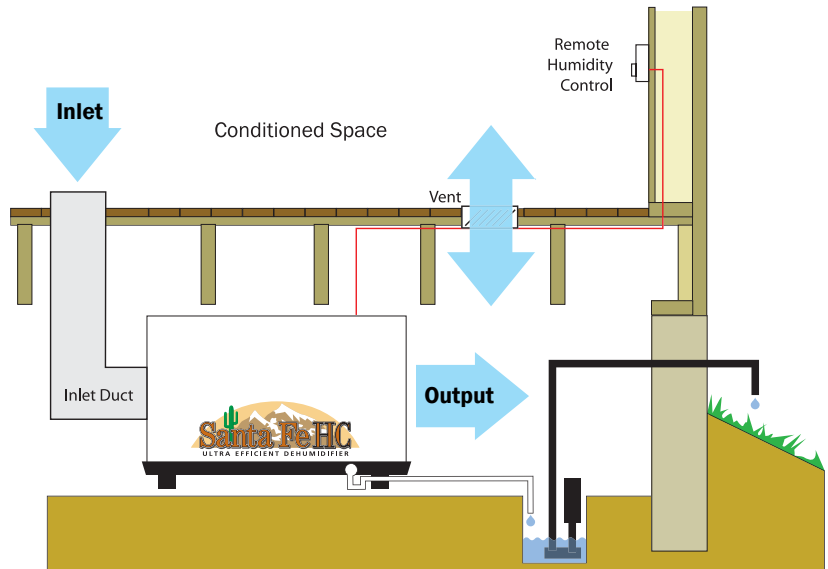

Figure 8: Installation in a remote area with a ducted inlet only.
□ **4.1E In A Remote Area, Duct Inlet Only (Fig. 8)**